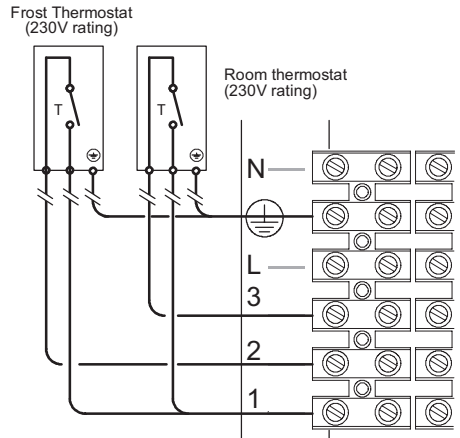
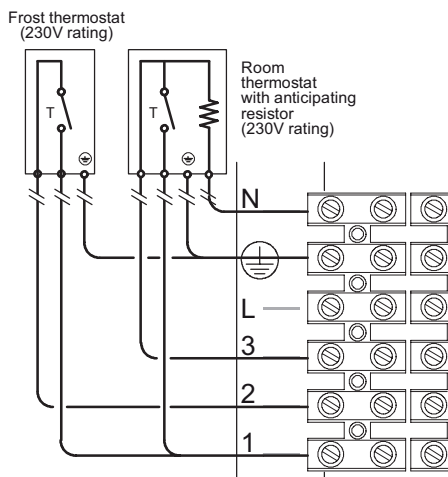
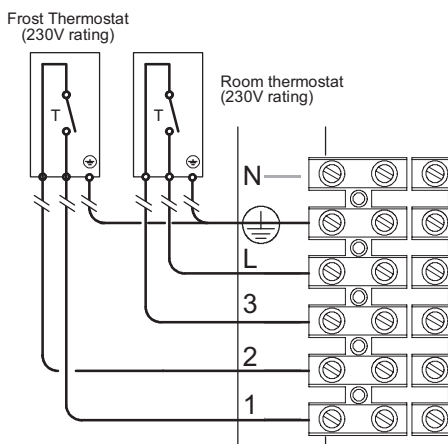

Fig. 6.24
Fig. 6.25
Fig. 6.26
- Connect the frost thermostat between terminals 1 and 2 as shown in Fig. 6.24, Fig. 6.25 or Fig. 6.26.